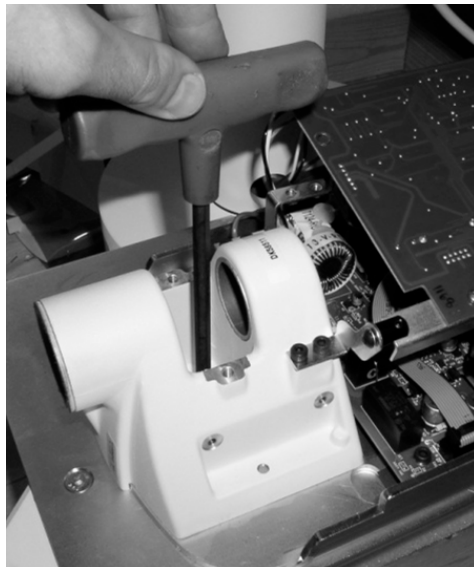
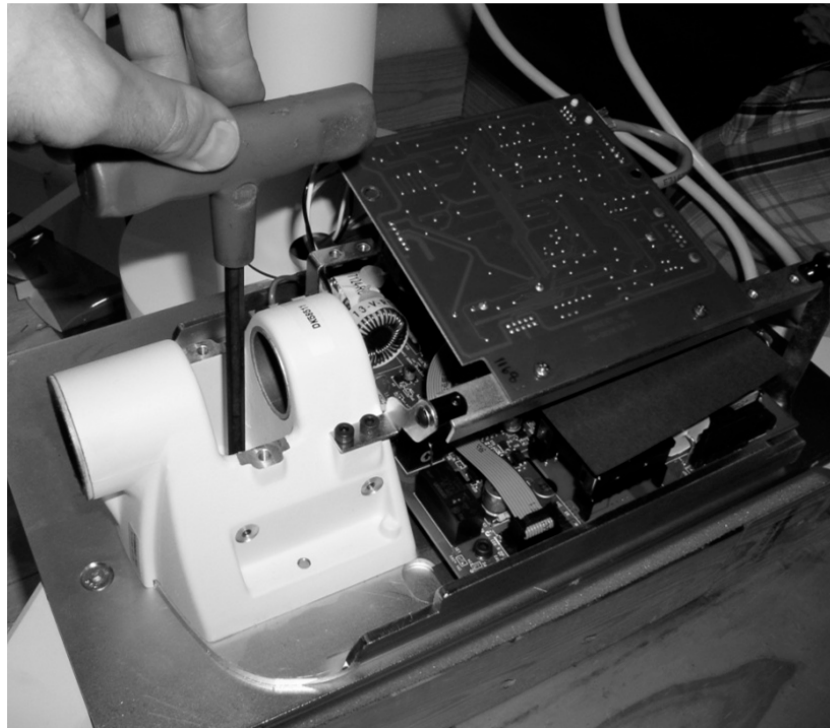

Figure 31: Detaching the Control Unit assembly from the Mounting Plate
Figure 33: Attached Control Unit Assembly
3. Use a 6 mm hex wrench to detach the Control Unit assembly from the Mounting Plate as shown Figure 31. Two bolts with two washers have to be unscrewed.
5. Use a 6 mm hex wrench to attach the Control Unit assembly back to the Mounting Plate as shown Figure 33. Two bolts with two washers have to be replaced and screwed to the Mounting Plate (Figure 31).